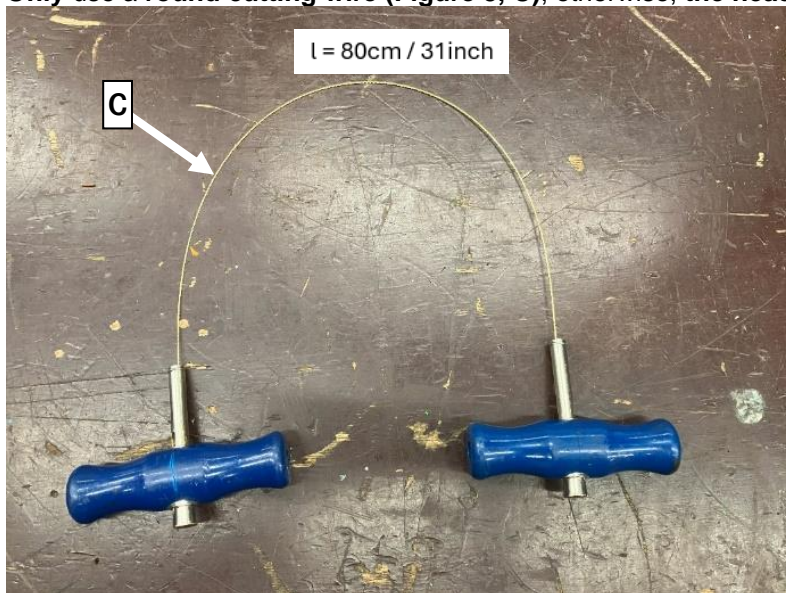

Figure 3 (Cutting wire is 80 cm/31 inches in length)
i The cutting tool is a commercially available tool for the removal of bonded vehicle windshields (Figure 3). **Only use a round cutting wire (Figure 3, C), otherwise, the headliner may be damaged!**
5. Clamp cutting wire (Figure 3, C) into grab handles as specified in the tool's instructions for use.